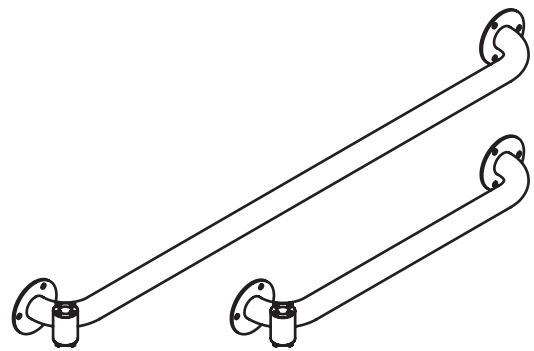

## FIGURE 3: ALTERNATIVE TO SUPPORT FRAME - MULTI-LAYER PLYWOOD INSIDE WALL WITH WALLBOARD PATCH (TOP VIEW)
3. Fabricate a support frame structure from suitable wood pieces as shown in **Figure 2b**. Support frame width (D) should fit snugly within wall studs. Support frame height (E) should be from 36-48" (91-122cm) high or more, depending on material and stiffness of wall studs. Locate top cross member (F) to position in line with top flange when lower rail is located at the height (H). Lower cross member (G) should be spaced at C = 24-26" (61-66cm) center to center from top cross member. Hold the support rail against the support frame to confirm the cross members are in the correct location. Use a generous quantity of wood screws and glue to hold the support frame structure together as shown. See alternative to support frame as shown in **Figure 3**.